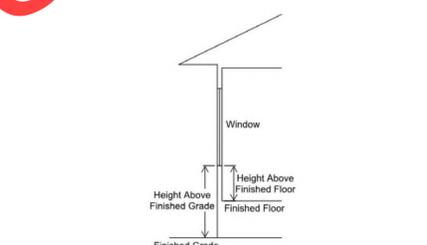

Figure 1: Sill height above finished grade on the exterior side of an operable window opening
- Where the sill height above finished grade on the exterior side of an operable window opening is greater than 72 inches, and the sill height above the finished floor on the interior side of the operable window opening is less than 24 inches (or 36 inches in dwelling units regulated by the IRC) (see Figure 1), then window fall protection shall be provided by one of the following (R312.2.1, R312.2.2, IRC 1015.6):